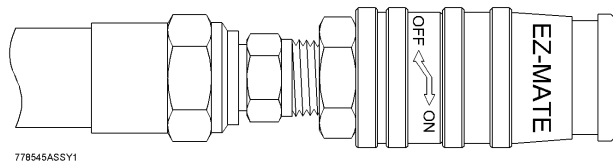

Figure 2
- 3.12 **EZ Mate Quick Disconnect** - Allows the user to turn the supply air off/on at the CSCTD without uncoupling the hose. See Figure 2.